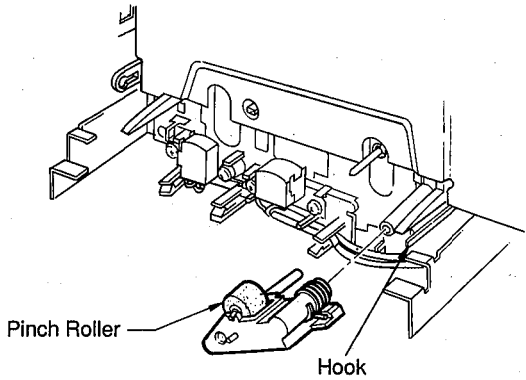

Fig. 5
- a. Detach the hook in fig. 5 and remove the pinch roller.